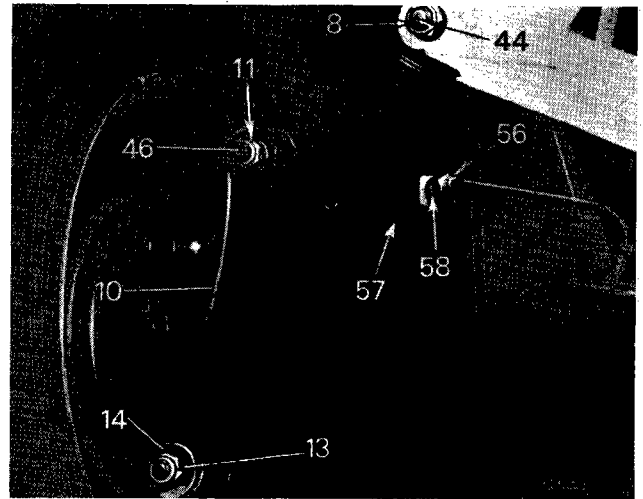

Fig. 41. Rear suspension, vertical link, brake pipe and damper attachments
1. Disconnect each brake hose from its steel pipe and chassis bracket by unscrewing the union nut (56), Fig. 41, and removing the nut (58) whilst holding the flexible pipe (57).
4. Slacken the damper upper attachment bolt (44), Fig. 41, remove the nyloc nut (13) and washer (14) from the lower attachment and pull the damper (9) clear of its lower fulcrum. Remove the jack from the vertical link.